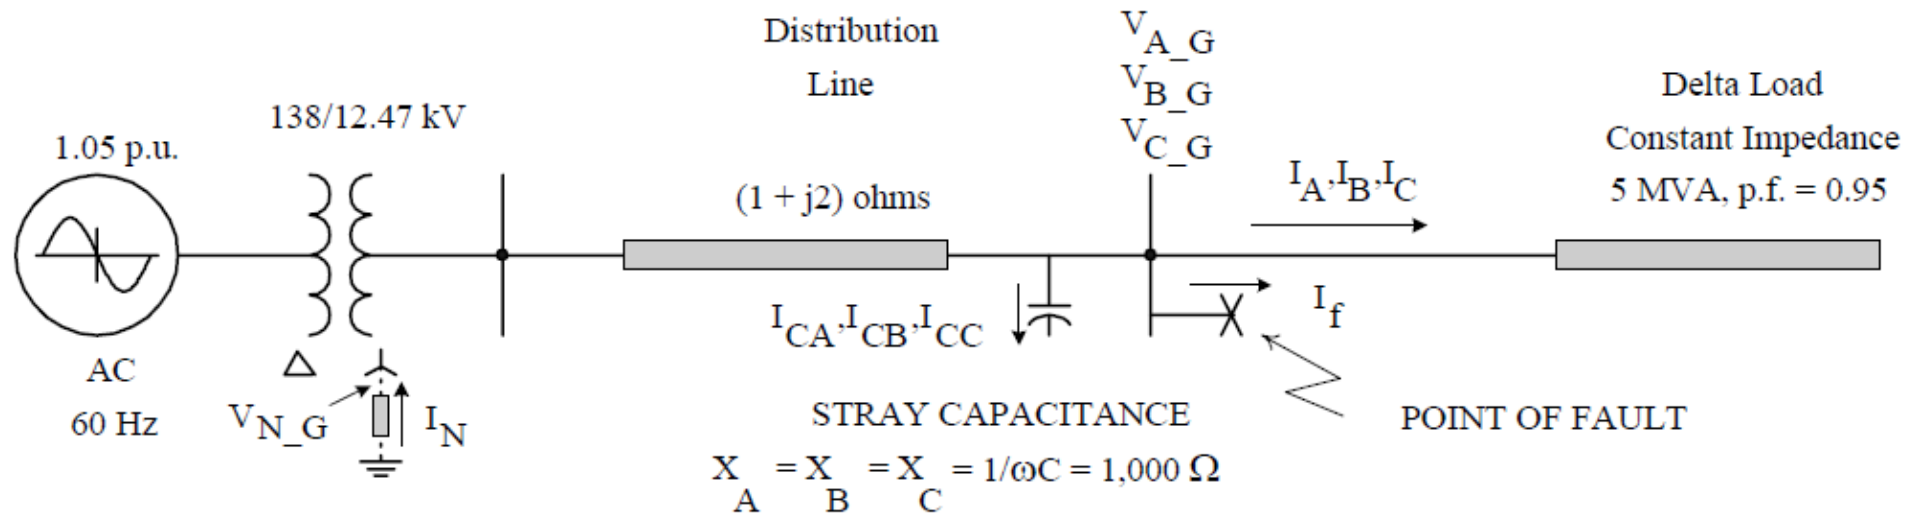

Figure 5-10—A typical distribution system with a radial feeder
- Figure 5-10 shows a 12.47 kV feeder supplying power to a 5 MVA constant impedance, delta connected load.